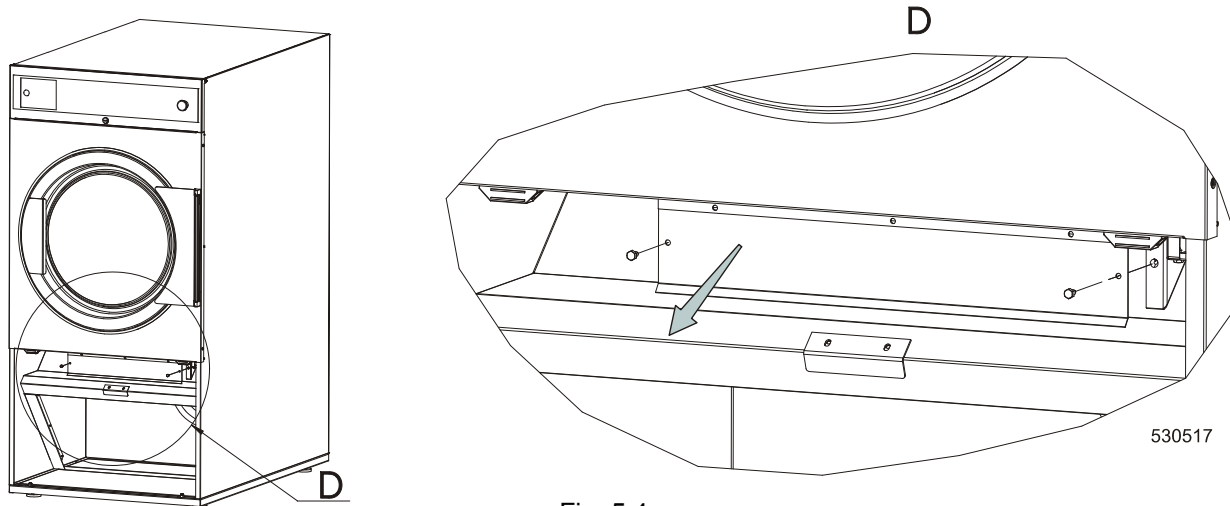

Fig. 5.4.
6. Remove the lint filter cover. Remove the cover below the drying drum, fig. 5.4. Clean the inner space with vacuum cleaner. Return the lint filter cover to its original place, not applicable for 24kg (53lb), 35kg (77lb).